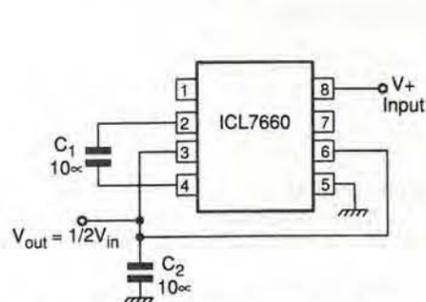
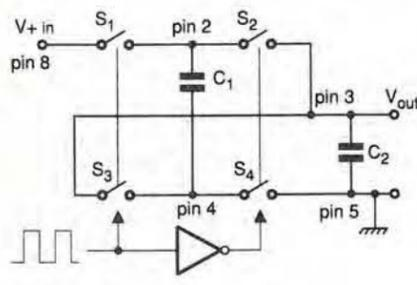
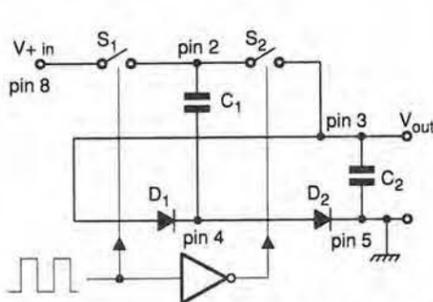

Fig. 1. Voltage divider using a popular IC.
Fig. 2. Voltage divider internal circuit.
Fig. 3. Diodes being used in place of S3 and S4.
One reference to a voltage divider can be found in the ICL7660 data sheet.4,5 Figure 1 shows the connections required and Fig. 2 shows the internal switching with mosfets.
Two of the switches, S3 and S4, can be replaced with diodes, Fig. 3. With diodes, efficiency is reduced for light loads. This is because mosfets acting as synchronous rectifiers in Fig. 2 can have a low forward voltage drop at low currents, unlike normal diodes.
Figure 3 is a relatively easy circuit to implement. Test circuit Fig. 5 uses an IR2151 to drive two mosfets. Three 6.8µF, 20V tantalum capacitors measuring 7 by 5 by 4mm were paralleled for  $C_1$ . Each capacitor has an esr of 400mΩ at 100kHz. Two of these capacitors are used for the output  $C_2$ . The input capacitor consists of three 22µF, 50V YXB aluminium electrolytics. These allowed the circuit to deliver 5A continuously. The input voltage was adjusted to give 15V output, requiring 34.9V.
For the switching capacitor converter of Fig. 3 the ripple voltage is approximately,
The buck converter requires one transistor, minimally rated at  $V_{in}$  and  $I_o$  (average) plus a diode for the same  $V_{in}$  and  $I_o$ . A switching capacitor converter such as Fig. 3 requires two transistors, each minimally rated at  $1/2 V_{in}$  and  $I_o$ , plus two diodes each rated at  $1/2 V_{in}$  and  $I_o$ . This is twice the number of devices although the total switching capacity ( $V \times I$ ) is the same.
**Synchronous converter**, Fig. 2. All switches are mosfets with equal  $R_{DS(on)}$  since they carry the same peak current.
**Single ended converter using diodes**, Fig. 3. Each diode has a forward drop  $V_D$  and ohmic resistance  $R_D$ .